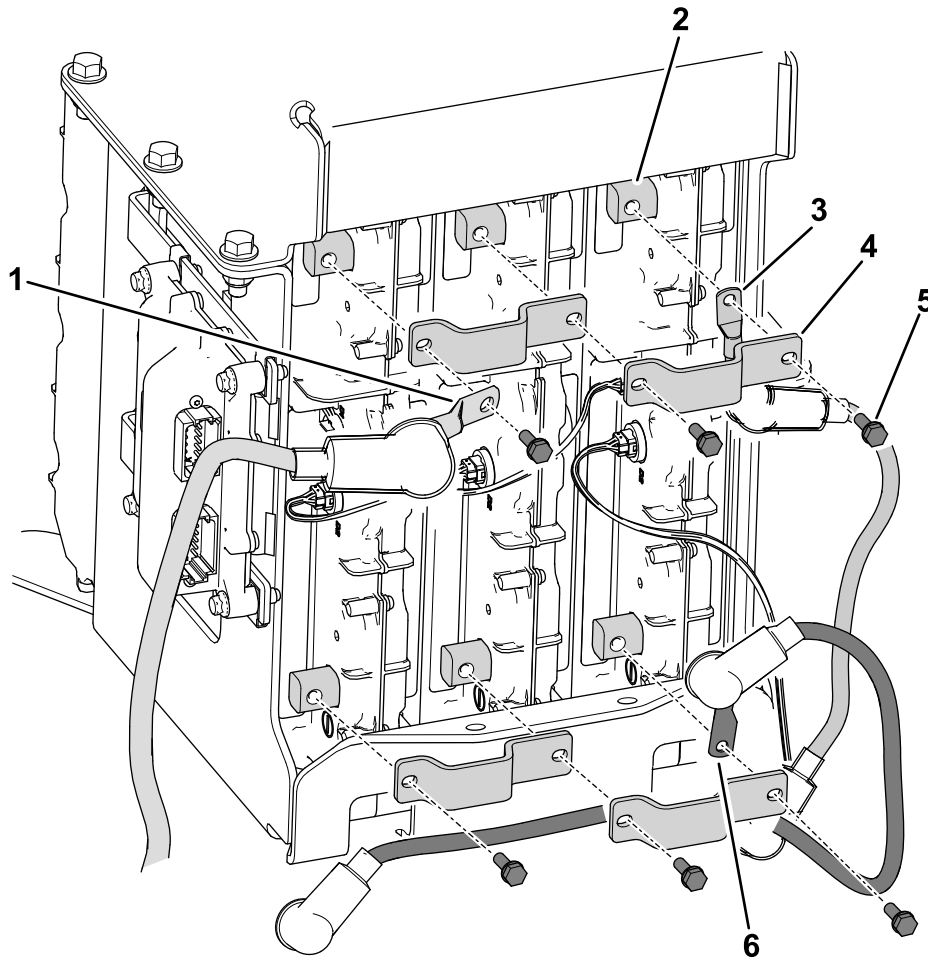

Figure 16
3. Use 6 bolts (1/4 x 3/4 inch) to secure the following items to the battery terminals (Figure 16).